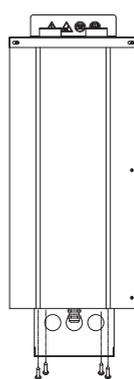

Abb. 3
2. At first verify that the power supply line has been disconnected from power before making the connections. First unscrew the four screws shown in Fig. 3 and then pull down the terminal strip. See Fig. 3a.